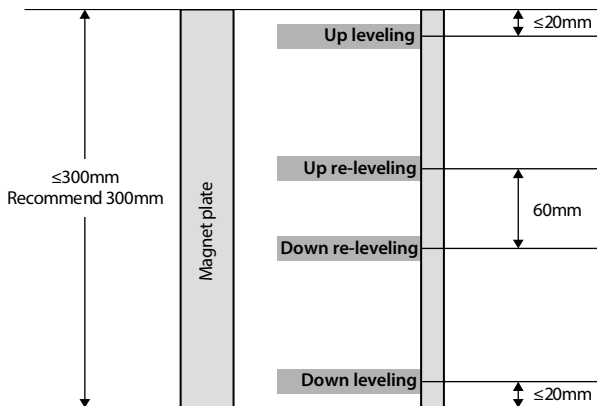

Figure 5-1 UCMP sensor installation recommended program
- For systems with UCMP protection, the recommended leveling board and flat layer signals are shown in Figure 5-1.